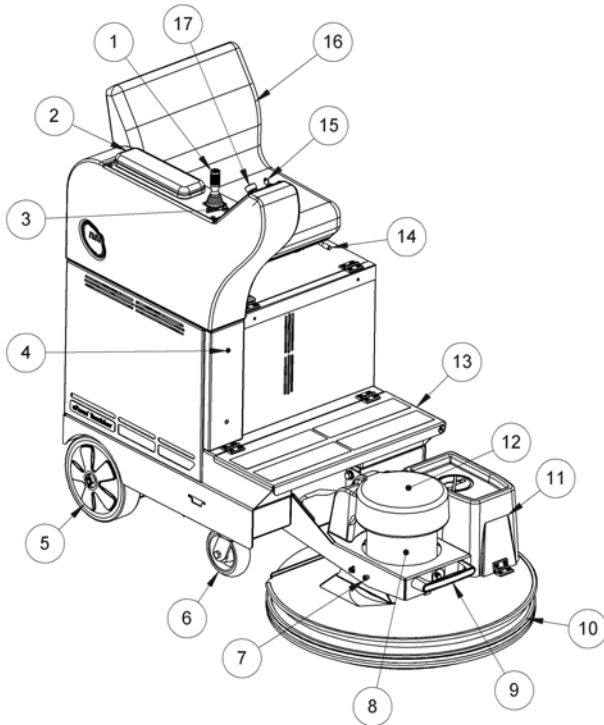
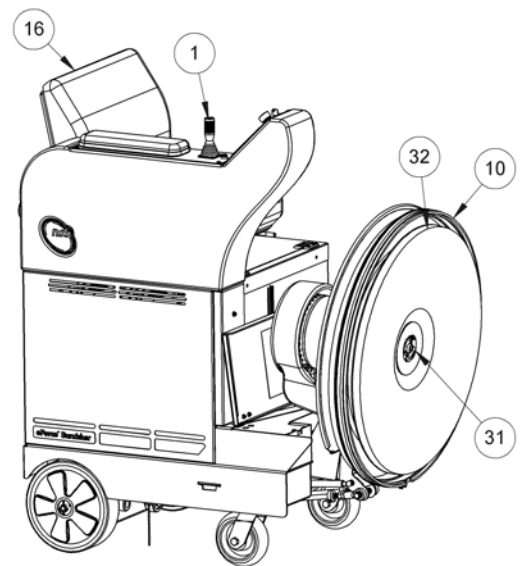

FIGURE 1
FIGURE 4
# MACHINE COMPONENTS Figures 1 - 4
- The Foot Plate (Fig. 1 Item 13) must be in the up position to raise the pad head into the pad change position. See Fig. 4.
- Move the front of the machine from/to pad changing position or operating position by grasping the handle (Fig. 1 Item 4) on the front and moving it to the desired position.